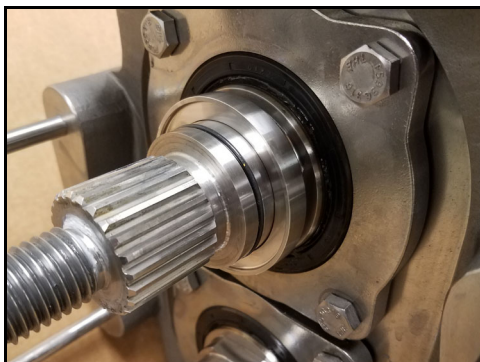

Figure 166 - Seal seat installed
4. Figure 166 shows the seal seat installed on the shaft.